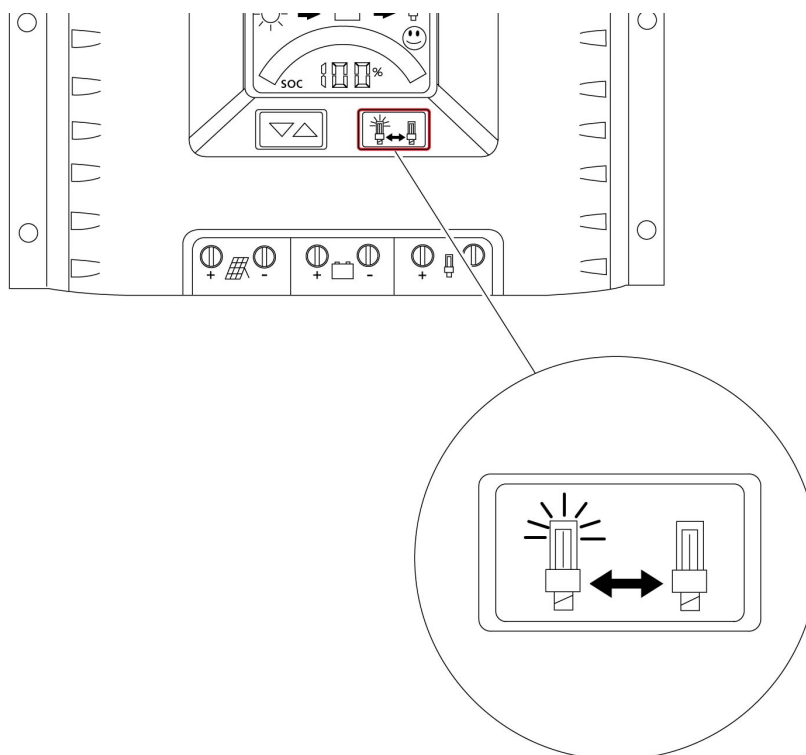

Figure 11. Take the COSMIX M out of operation
3. Push the right button (fig. 11, page 6-1) on the solar charge controller.